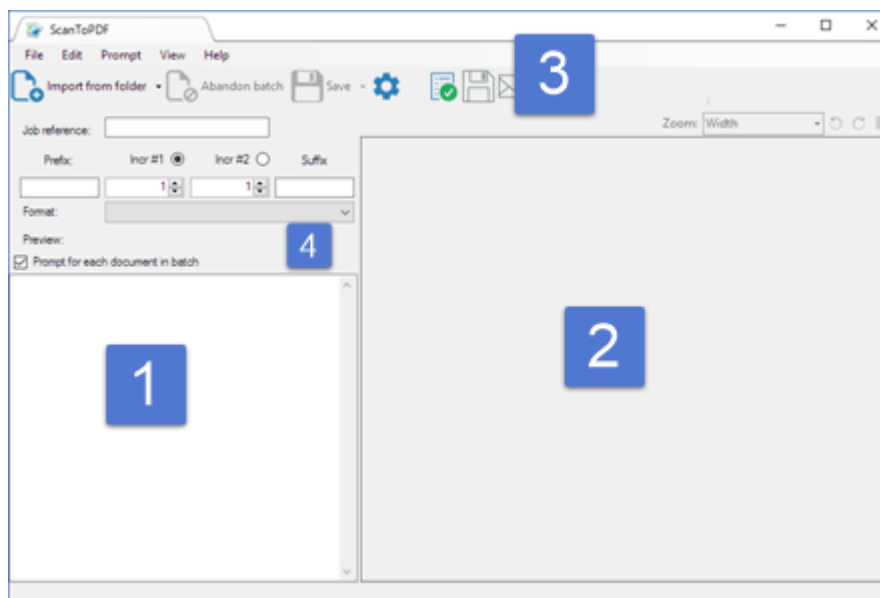

Figure 1
The user starts ScanToPDF and is presented with the User Interface (UI) as shown in Figure 1.
capture pages and present them to the user as thumbnail images in the thumbnail pane of the software as shown in Figure 1.